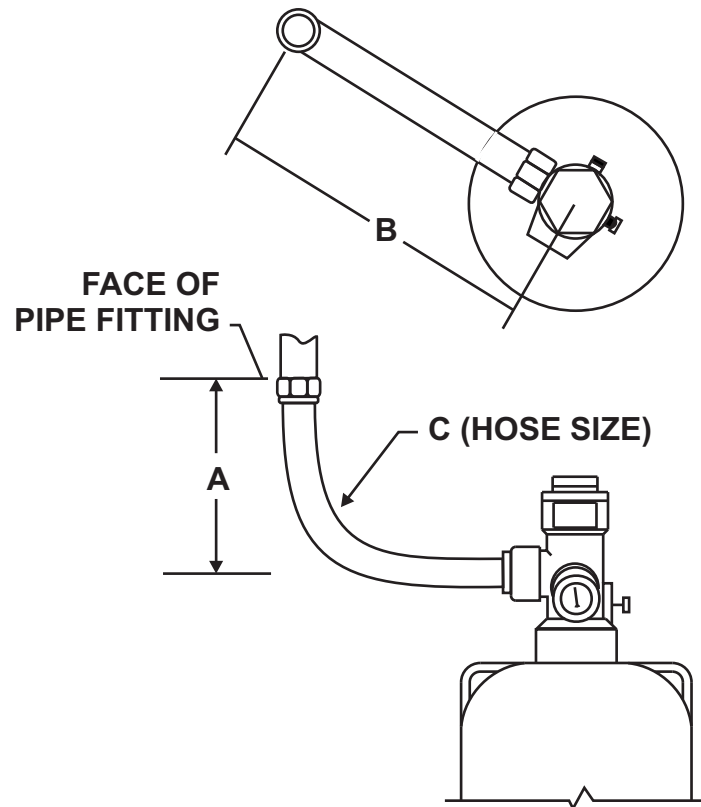

Figure 4-17. Installation of the Flexible Hose Directly into System Piping
Attach the flexible discharge hose from system piping or EI-check in the discharge manifold to the cylinder valve. Tighten securely. See Figure 4-17 and Table 4-9 and Table 4-10.
1. Position the FM-200 cylinders in the designated location and secure them in place with cylinder mounting straps and attaching hardware. For cylinders of 125 lb. capacity and above, a cradle is used to support between the cylinder and the unistrut or bulkhead. See Figure 4-17 and Table 4-12 and Table 4-13 for the relevant installation dimensions. Orient the cylinders so that the valve outlets are angled towards the EI-check valves in the manifold.